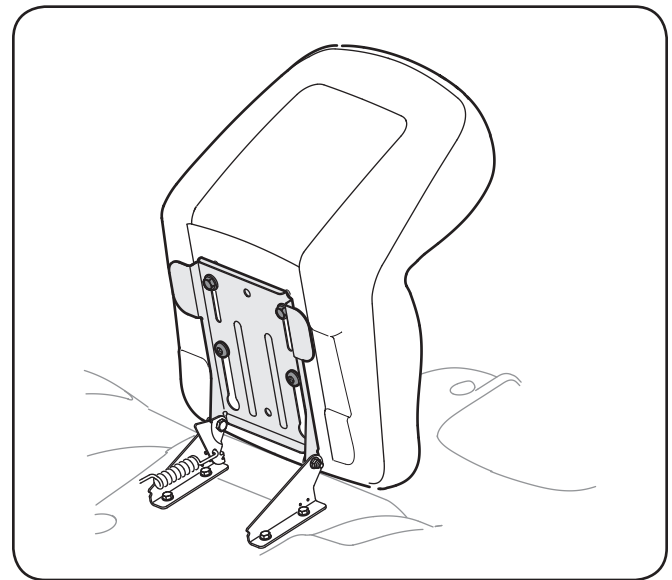
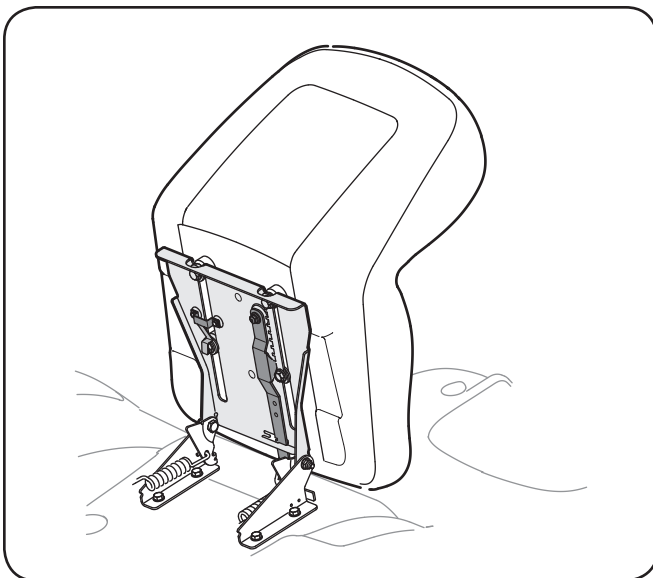

Figure 3-5
Figure 3-7
If the seat for your tractor was not attached at the factory, refer to Fig. 3-5, Fig. 3-6, and Fig. 3-7 to identify your tractor's seat style and follow the applicable instructions below to attach it.
1. Position the shoulder screws (found on the base of the seat) inside the slot openings in the seat pivot bracket. Fig. 3-5.
3. Select desired position for the seat, and secure with the two hex screws removed earlier. See Fig. 3-5.
2. Slide seat in until front seat spacer engages the seat stop. See Fig. 3-7.